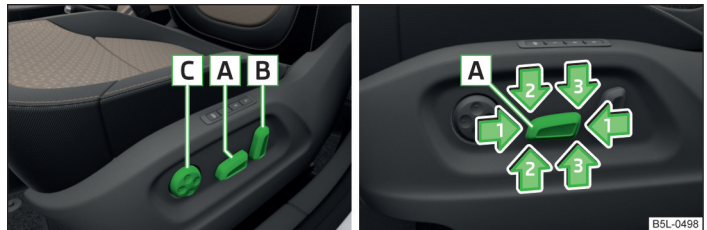
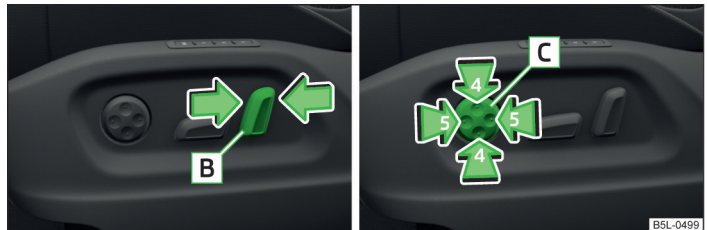

Fig. 40 Control elements / adjusting the seat
Fig. 41 Setting: Seat back / lumbar support
Image description » Fig. 40 and » Fig. 41
» Push the switch  in the direction of one of the arrows 1 » Fig. 40.
» Push the switch  in the direction of one of the arrows 2 » Fig. 40.
- Push the switch **A** in the direction of one of the arrows **3** » Fig. 40.
- Push the switch **B** in the direction of one of the arrows » Fig. 41.
- Push the switch **C** in the region of one of the arrows **4** » Fig. 41.
- Push the switch **C** in the region of one of the arrows **5** » Fig. 41.